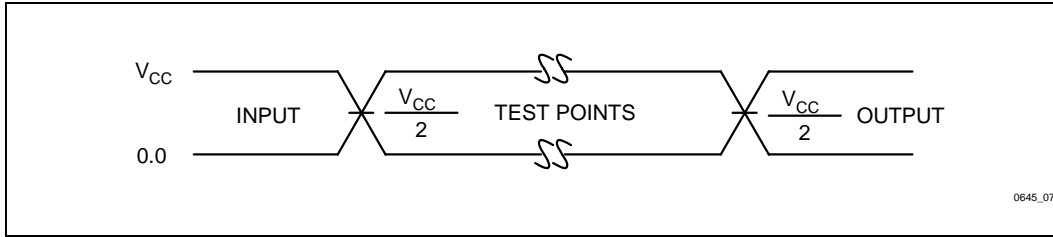

Figure 4. Input/Output Reference Waveform
4. See Figure 4, *Input/Output Reference Waveform* for timing measurements and maximum allowable input slew rate.
4. See Figure 4, Input/Output Reference Waveform for timing measurements and maximum allowable input slew rate.
- See Figure 4, *Input/Output Reference Waveform* for timing measurements and maximum allowable input slew rate.